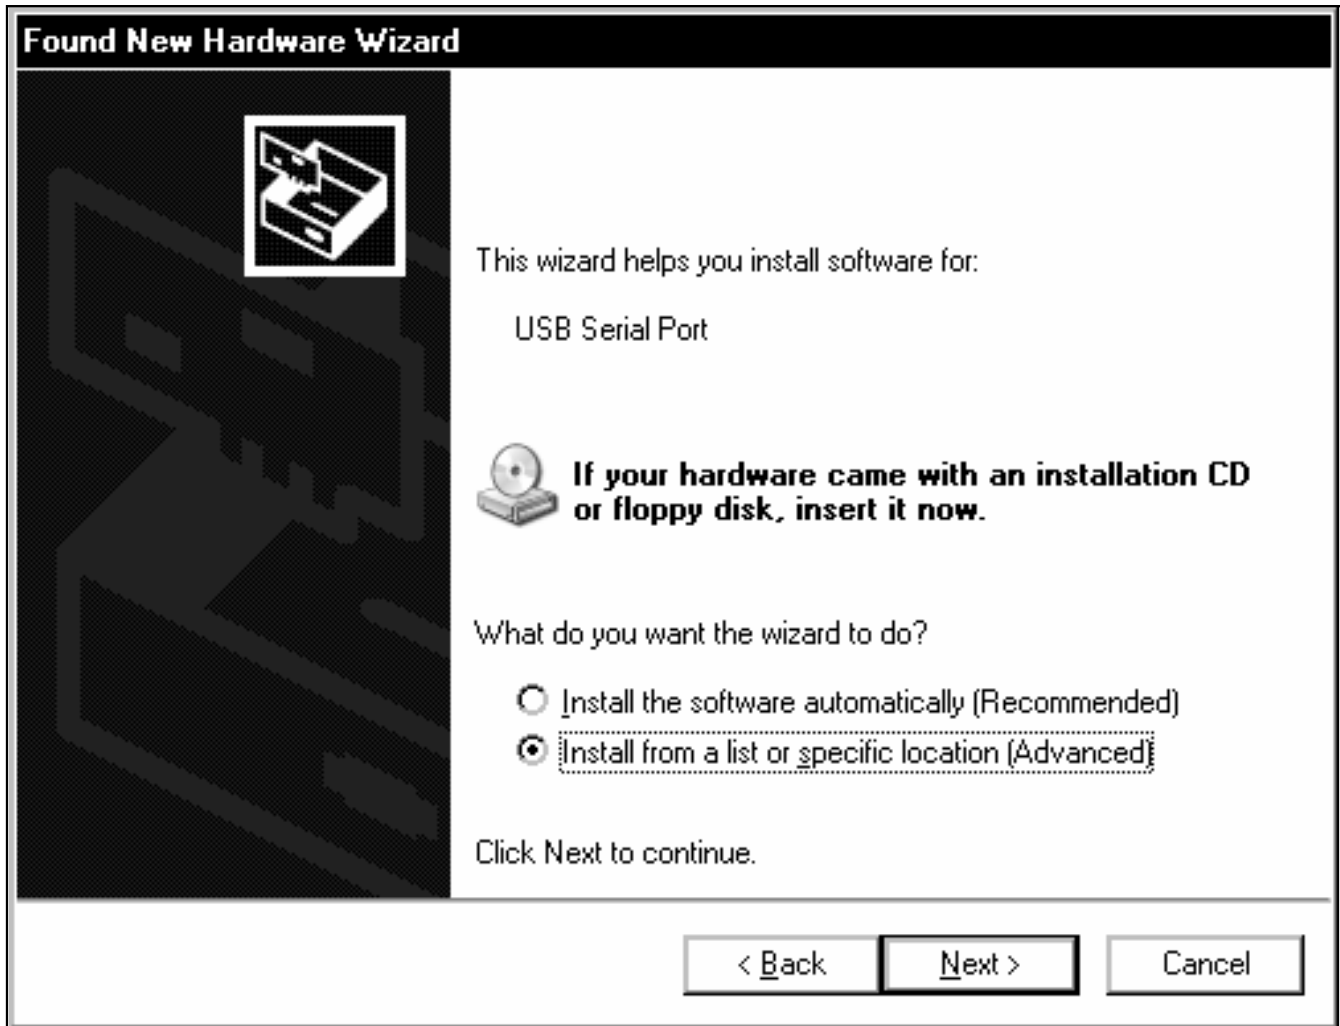

Figure 6. Windows XP: **Found New Hardware Wizard | USB Serial Port** Window
- 6) The next window is the **Found New Hardware Wizard | USB Serial Port** window (Figure 6). This window asks **What do you want the wizard to do?**. Choose the **Install from a list or specific location (Advanced)** option and press the **Next** button.